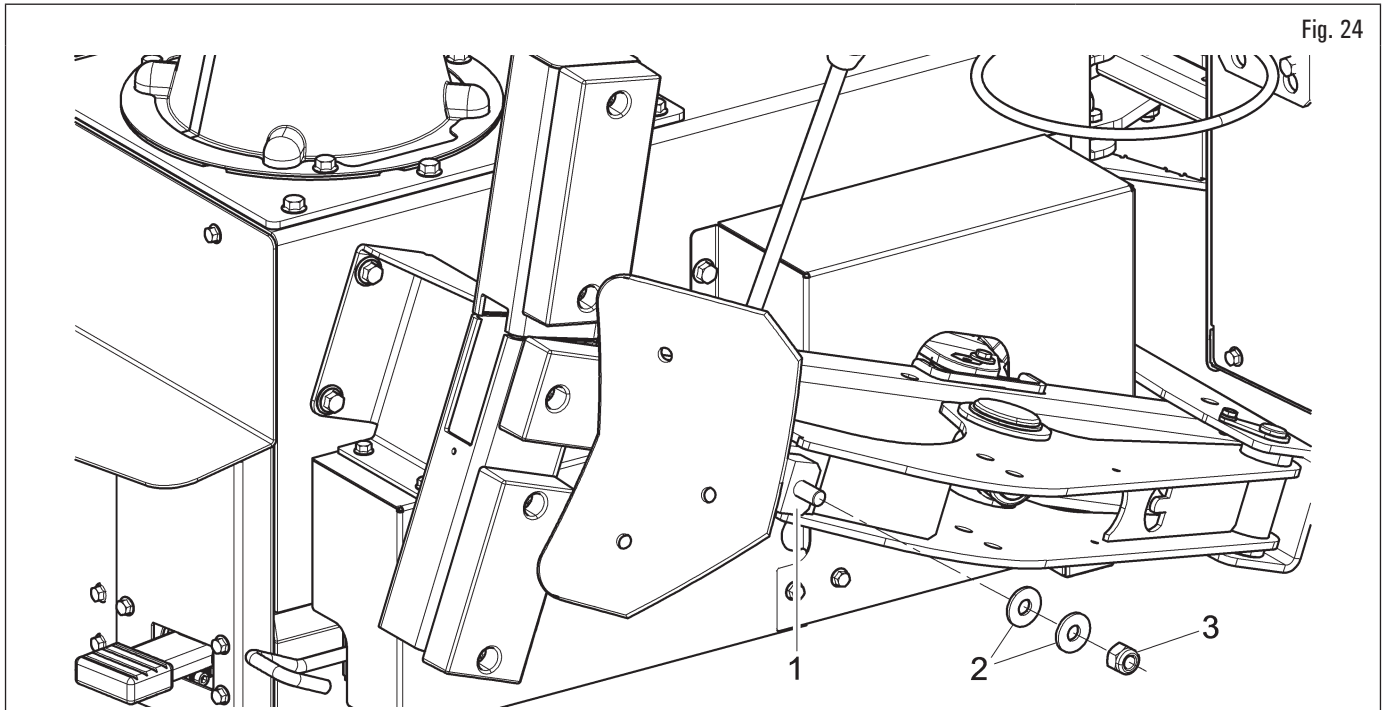

Fig. 24
Secure the beading arm shovel (Fig. 24 ref. 1) using the washers (Fig. 24 ref. 2) and the nut (Fig. 24 ref. 3), supplied (nut and washers are clamped on the bead breaker vane).